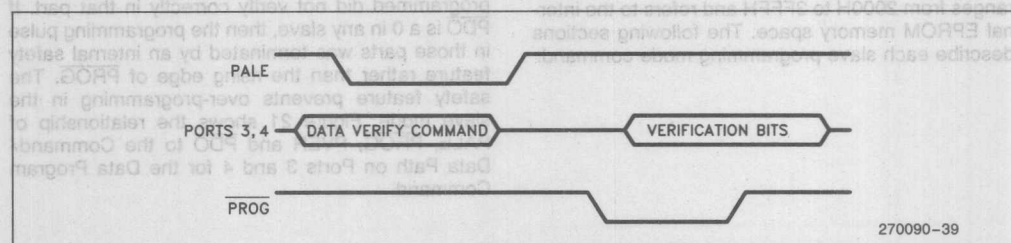

Figure 22. Data Verify Command Signals
**DATA VERIFY COMMAND** — When the Data Verify Command is sent, the slaves respond by driving one bit of Port 3 or 4 to indicate correct or incorrect verification of the previous Data Program. A 1 indicates correct verification, while a 0 indicates incorrect verification. The SID (Slave ID Number) of each slave determines which bit of the command/data path is driven. PROG from the programmer governs when the slaves drive the bus. Figure 22 shows the relationship of Ports 3 and 4 to PALE and PROG.
**WORD DUMP COMMAND** — When the Word Dump Command is issued, the 879XBH being programmed adds 2000H to the address field of the command and places the value found at the new address on Ports 3 and 4. For example, sending the command #0100H to a slave will result in the slave placing the word found at location 2100H on Ports 3 and 4. PROG from the programmer governs when the slave drives the bus. The signals are the same as shown in Figure 22. This command will work only when just one slave is attached to the bus.